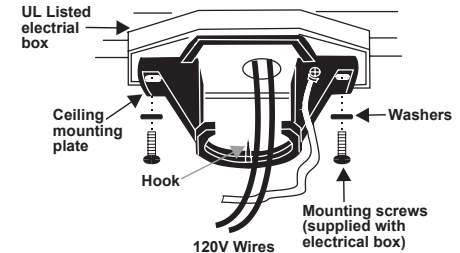

Figure 5
Step 1. Pass the 120-volt supply wires through the center hole in the ceiling hanger bracket as shown in Fig. 5.
2. Pass the 120-volt supply wires through the center hole in the ceiling hanger bracket as shown in Fig. 5.